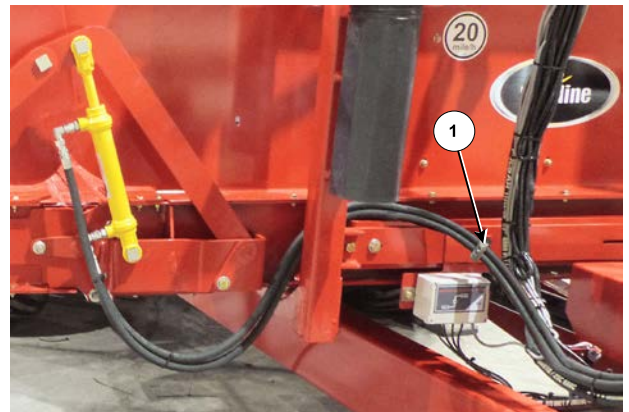

Figure 16: Route Hydraulic Hoses and Attach with the Hose Clamp
18. Attach the hydraulic orifice (14) to the base of the hydraulic fold cylinder.
19. Attach the 160" hydraulic hoses (15) to the hydraulic fold cylinder.
- Attach the hose couplings (4) onto the end of the hoses.
20. Route the hoses as shown in *Figure 16*.
21. Attach the hoses to the hose clamp (1) that is near the load cell junction box, see *Figure 16*.